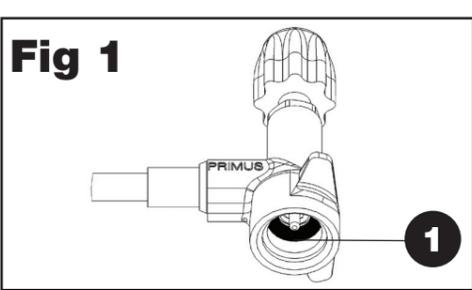

Fig 2
4. APPARATETS MONTERING (Fig. 2)
- Kontrollér at ventilen (2) er helt lukket (drejret længst om med uret).
- Hold gasflasken (3) i opret stilling, når den tilsluttes ventilen.
Med EtaPower kasseroller (Fig.2)
- Sæt brænderdelen (4) på underlaget og sorg for, at den står stabilt.
- Fold grydestøtterne opad (7) og sørg for, at de folder sig helt ud.
5. SÅDAN ANVENDES APPARATET (Fig. 2)
4. ASSEMBLING THE APPLIANCE (Fig 2)
- Make sure that the valve (2) is closed (maximum clockwise).
- Keep the LP gas cartridge (3) upright when connecting it to the valve.
With EtaPower pots (Fig. 2)
- Place the burner (4) on the base and make sure it is stable.
- Twist the pot supports (7) into place and make sure they are fully extended.
5. USE OF THE APPLIANCE (Fig 2)
- Turn the burner valve counterclockwise (2) and ignite the burner (8) immediately by pressing the ignition button. Adjust the flame by turning the burner valve (2).
- If the stove is being used in heavy wind, it should be situated such that the burner's air intake (13) is turned to face into the wind.